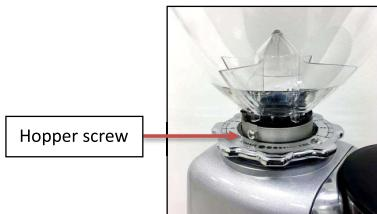

Fig4.1
- Fasten the hopper to the grinder body by means of the supplied screw. (fig.4.1) Make sure that the screw is inserted completely through both holes in the hopper and in the top blade holder.